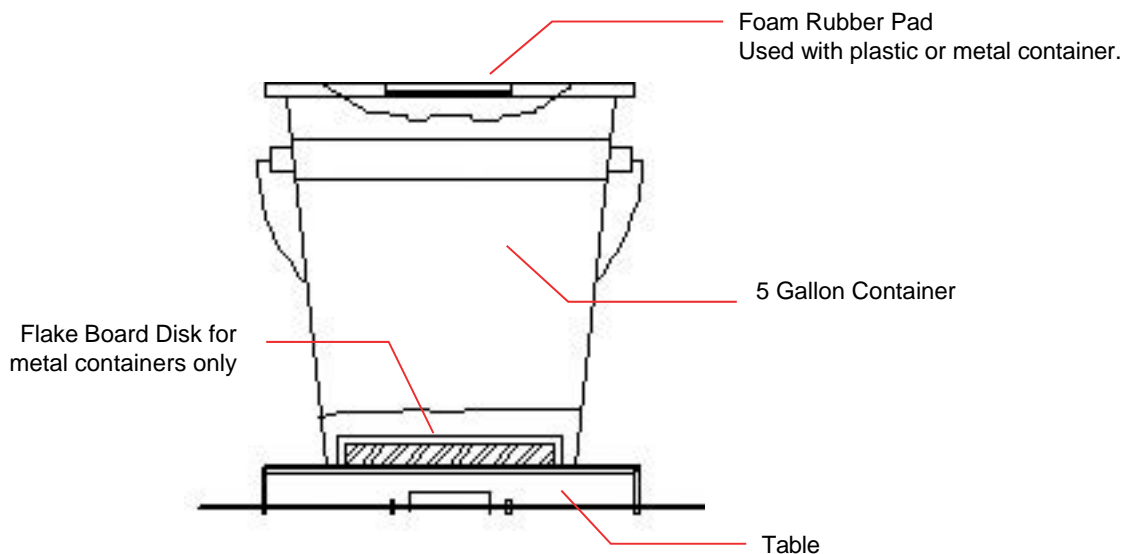

Figure 4. 5-Gallon Container Cut-Away View
- On 5-gallon metal containers, use the flake-board disc for recessed bottoms that do not have a center support. Use the discs for recessed tops. See BASIC OPERATION, Figure 4, "5-Gallon Container Cut-Away View" on page 17.